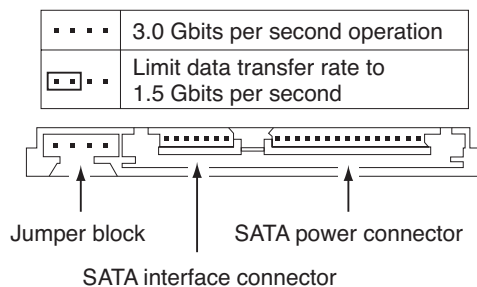

Figure 4 Serial ATA jumper block and connectors
- Configure the jumper block with a jumper as shown in Figure 4 below to limit the data transfer rate to 1.5 Gbits per second (and leave the drive connected to the SATA-equipped motherboard or host adapter that doesn't support autonegotiation) or
- Install a SATA host adapter that supports autonegotiation, set the drive jumper block set to “3 Gbits per second operation” (see Figure 4 below), and connect the drive to that adapter. This option has the benefit of not limiting the drive to a 1.5 Gbits/sec transfer rate.